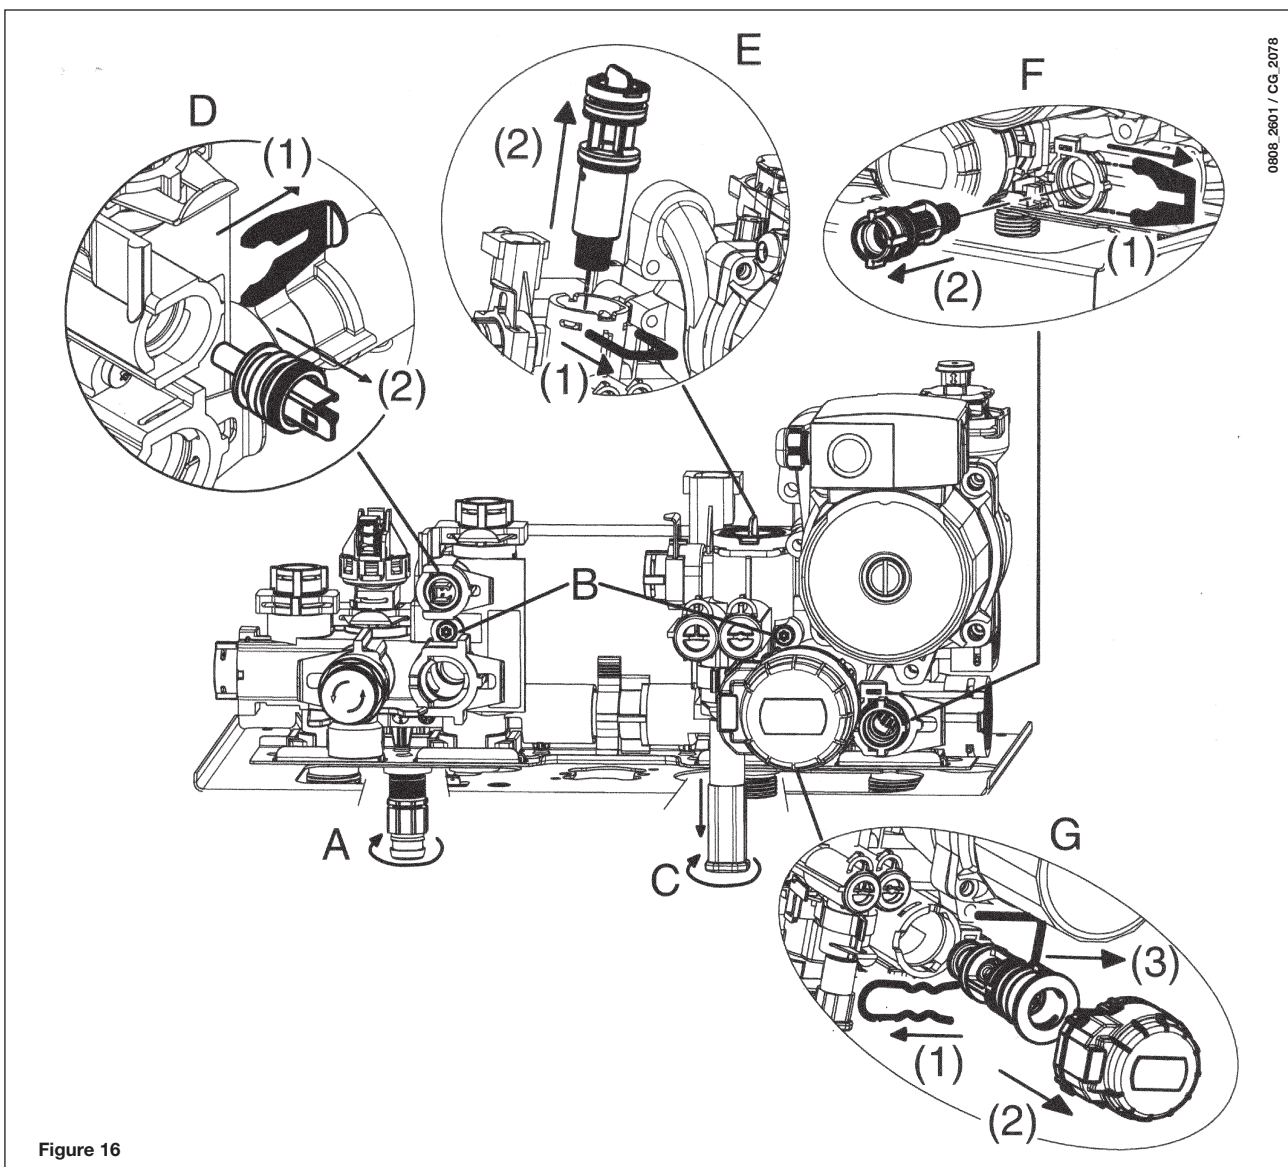

Figure 16
- drain the water out of the heating circuit, turning on tap A in figure 16.
- to extract the cartridge of the heating filter you must first remove the motor of the 3-way valve (1-2G - figure 16);
- Remove the clip 1E in figure 16
- Remove the filter (2E fig 16).